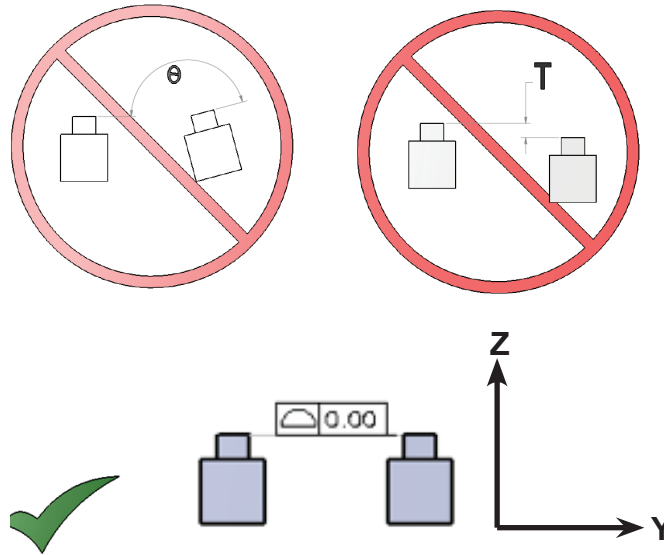

Figure 7: (Top) Parallel actuators with angle misalignment and plane height misalignment. (Bottom) Proper parallel alignment.
1. **Are the actuators mounted with the carriages at the same height?** Misalignment in this plane will put an unfavorable Mx-axis bending moment on the bearing system of one or both units. (See figure 7.)